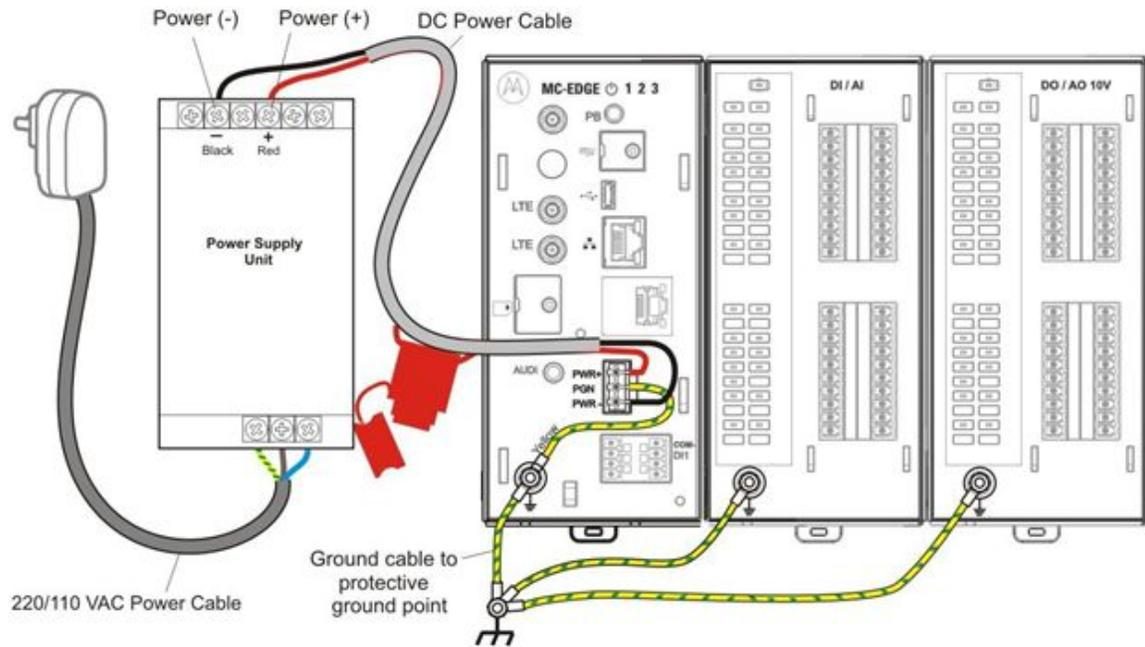

Figure 22 - MC-EDGE with I/O Expansion Power and Ground Connections
2. Line the TB connector up to the corresponding connector on the I/O module and press it forward into the module, as shown in Figure 22. Then press downwards to lock.
1. Once all cables are connected to the module, collect all cables in one or more tear-off cable tie(s) (not supplied). See Figure 22.